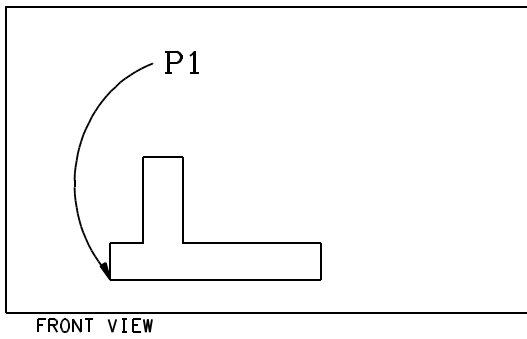

Figure 2
3. Click on point P1 (the bottom left center) in the front view. (See Figure 2.)
5. Click on point P1 (Figure 2) to finish the profile.